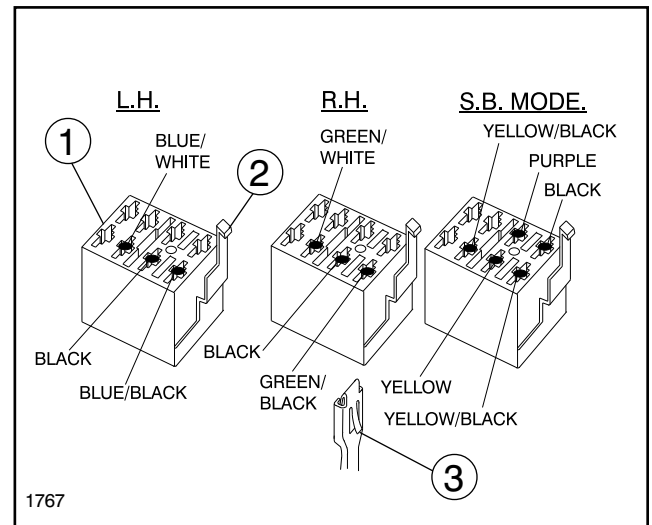

FIG. 5
d. Install the terminals/wires into the sockets of the new Connector Housings, provided, as shown in FIG. 5. Places all the wires from each group into a single Connector Housing. Orienate the terminals as shown in FIG. 5, with the Tangs facing in the direction of the Locking Arm. Firmly press the terminals into the sockets.